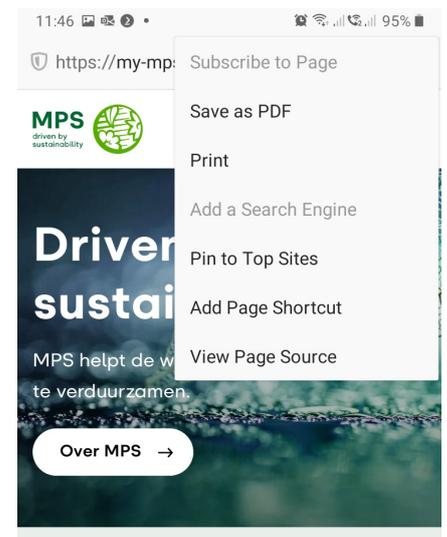

Figure 3
3. In the browser, tap on the share icon (see figure 3).